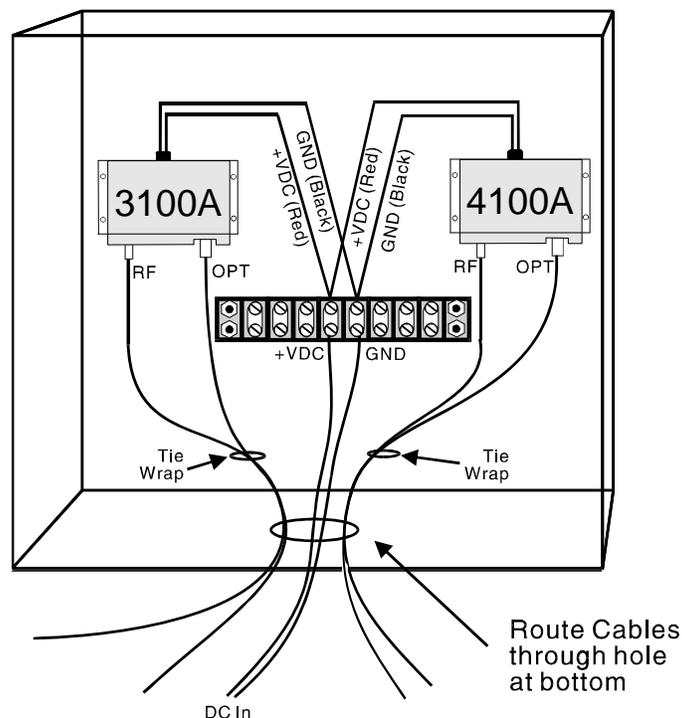

Figure 5-1. Installing flange-mount units in the outdoor NEMA enclosure.
3. The connections are shown in Figure 5-1. Connect the red and black wire leads from the module to the terminal block. Make sure the red lead goes to the terminal where the +VDC wire from the remote power supply is connected. The other lead is Ground.